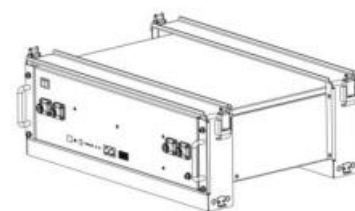

Figure3-5
1. Place the B3 and brackets as shown in the figure3-5, and insert the B3 into the brackets. Use 4 screws to fix the module on the front bracket.